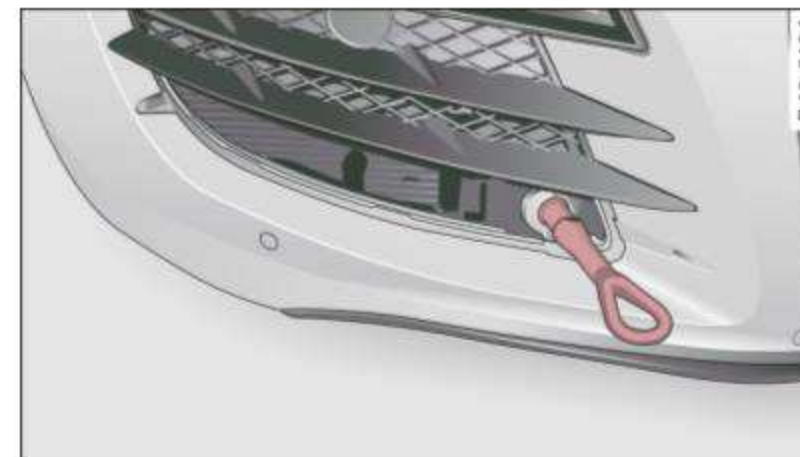

Fig. 137 Right front bumper without grille: Towing loop fully screwed in
- Screw the towing loop tightly into the threaded hole as far as it will go ⇒ *fig. 137*.